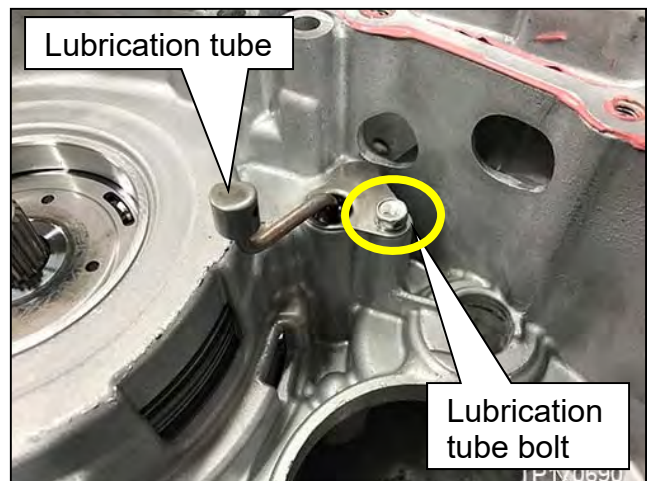

Figure 106
87. Remove the lubrication tube bolt shown in Figure 106 and then remove the lubrication tube from the CVT case.